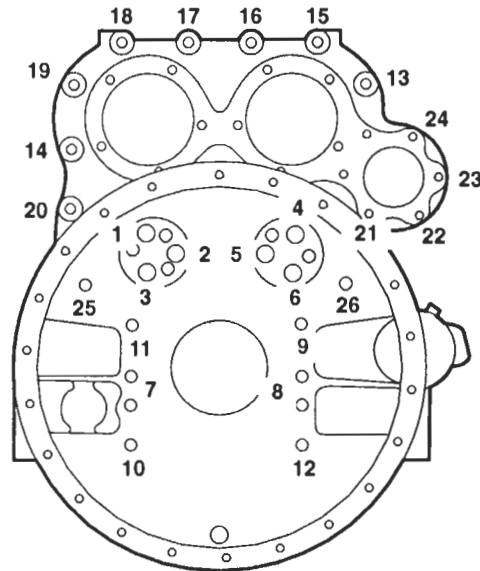

Figure 4. Flywheel Housing Bolt Tightening Sequence (Operation 1)
6. Install the six 3/8-16 x 1.255 inch sealant-coated, flange hex head bolts in the tapped holes of the dummy hub and idler hub areas of the flywheel housing (locations 1 thru 6 on Figure 4.) Do not use washers with these self-locking bolts. Tighten bolts finger tight and remove the pilot studs.